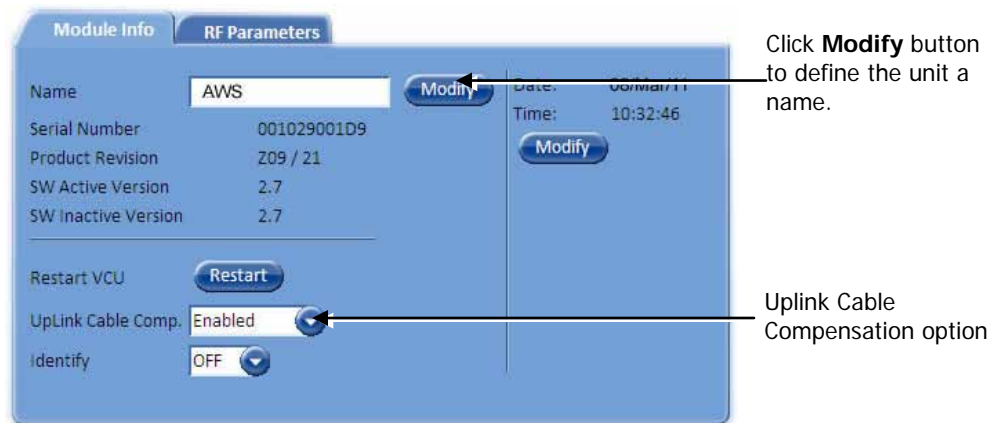

Figure 4-3. Module Info Tab
- Uplink Cable Compensation – enable this parameter ONLY if the bonded cable lengths vary between the VCU and VAPs (reduces noise). See Figure 4-3. It is NOT recommended to enable this option for similar cable lengths between the VCU and the connected VAPs.